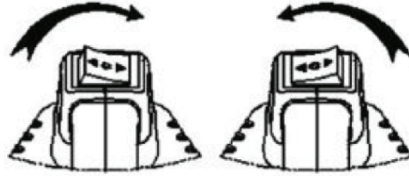

Figure 2
- a. Switch to the correct direction for loosening or tightening (check Figure2).